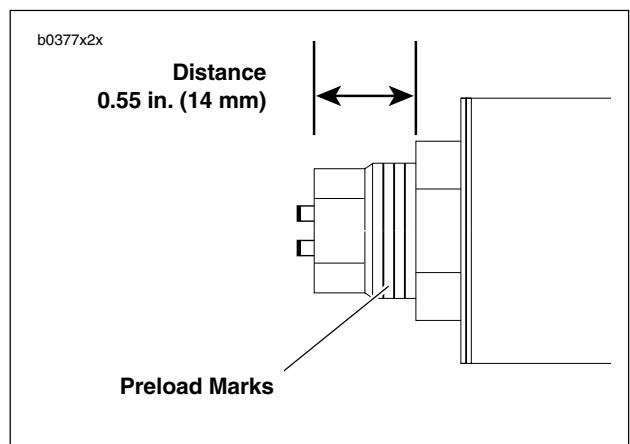

Figure 2-54. Spring Adjustment
- a. Spring (6) has progressive wind. Install spring over damper assembly with closer spaced coils facing down.
- b. Install lower spring seat (5), spring collar (4) and upper spring seat (3). Flat side of upper spring seat faces up.
13. Apply oil to **new** slider tube O-ring (2) and install.
14. Install slider tube cap (1) (metric) on damper assembly. Hold nut on damper assembly during installation.
15. Fasten slider tube cap (1) (metric) to slider tube. Tighten to 11-22 ft-lbs (15-30 Nm).
16. See Figure 2-54. Set adjuster assembly to the factory position.